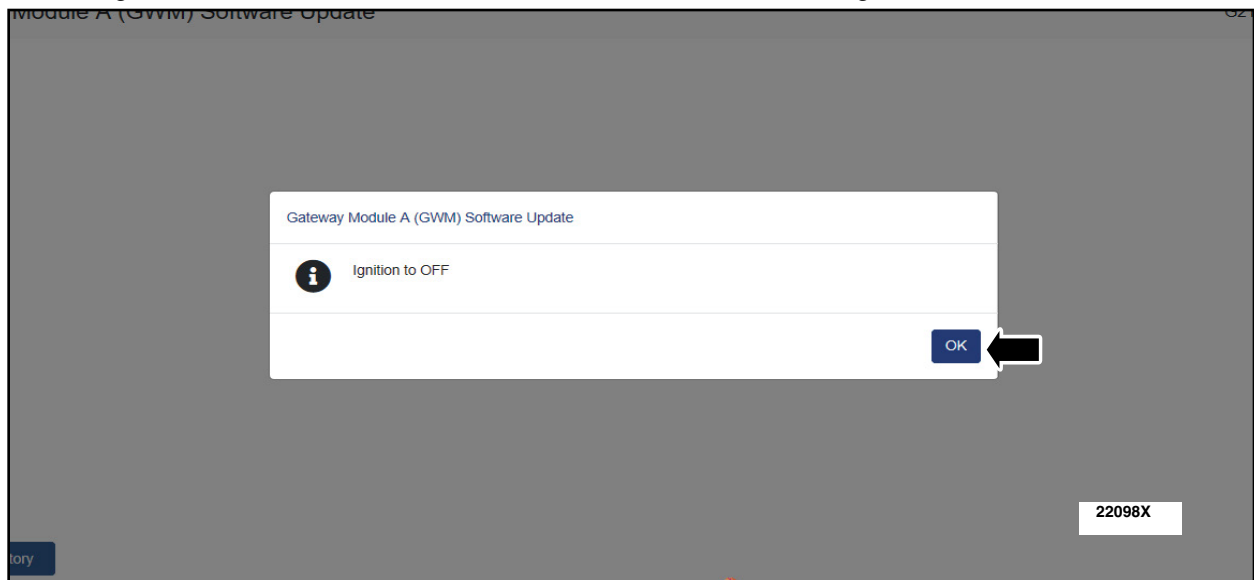

FIGURE 23
25. Turn ignition to off and click the OK icon on the FDRS screen. See Figure 23.